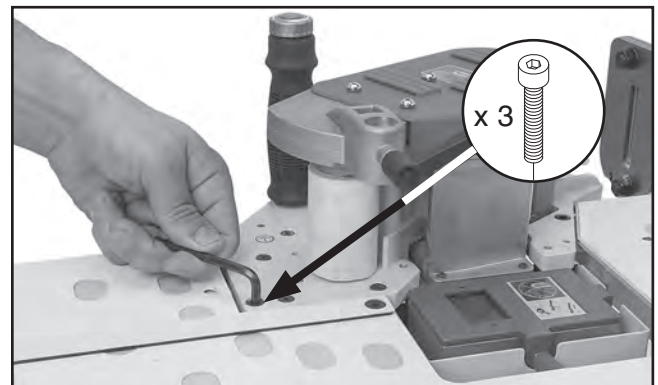

Figure 13. Securing edgebander to table.
1. Secure portable edgebander inside work table cutout (see **Figure 13**) using (3) M6-1 x 16 cap screws.